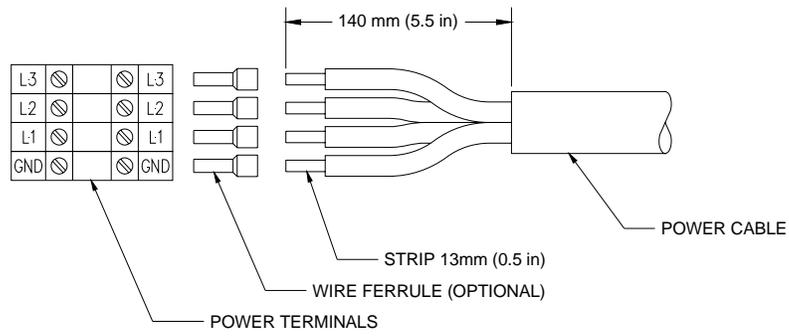

Figure 3-6. Typical Power Input Wiring
The Model 642 requires a 4 conductor power cord (not included). The input to the Model 642 is wired in a delta configuration, but will operate from a delta or wye source. If operating from a wye source, the neutral line (N) is not used. The ground (the green/yellow ground terminal) connects the instrument chassis to the electrical ground (safety ground), and is required to prevent fault conditions which may be hazardous to operating personnel. In no case should the safety ground line be omitted. In no case should a neutral line be used as a safety ground. If a detachable cord is used, always plug the power cord into a properly grounded receptacle to ensure safe operation of the instrument. All wiring must comply with the code requirements of the locality in which the instrument is installed. Figure 3-6 shows typical input wiring. The wire ferrules shown are not required, but are recommended to prevent stray strands from shorting to adjacent terminals.